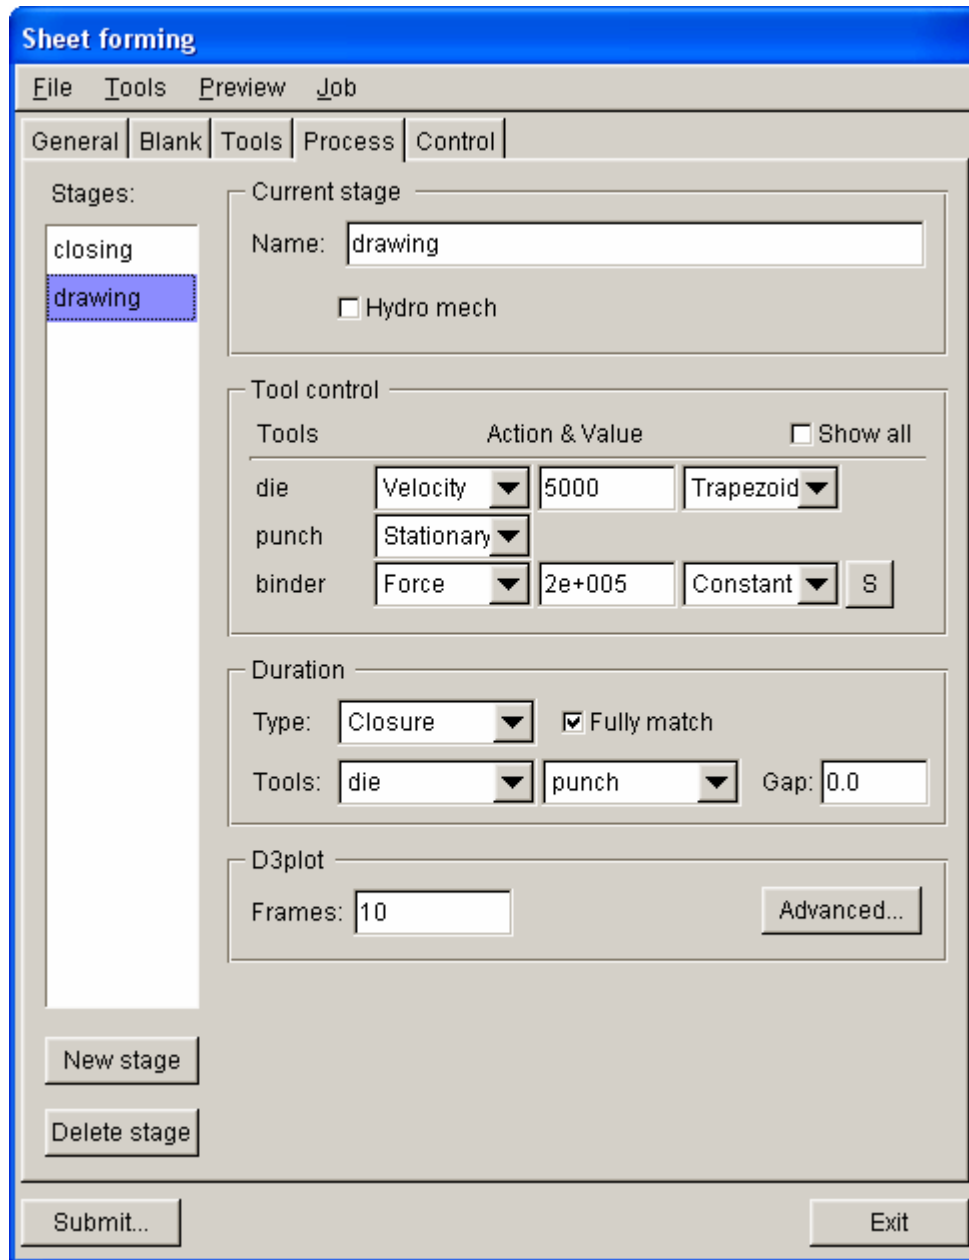

Figure 95: Drawing process interface
3. Select **drawing** process from the list located at left side of the interface as the current process. See Figure 95.
4. Verify the default setting of **drawing** stage is similar to Figure 95.